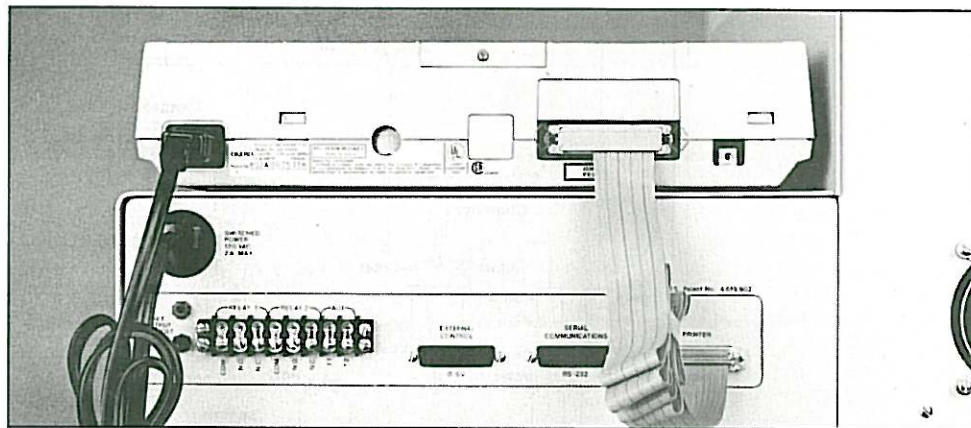

Fig. 3.2 Printer Connections
- Plug the printer power cord into the SWITCHED POWER outlet as shown in Fig 3.2.